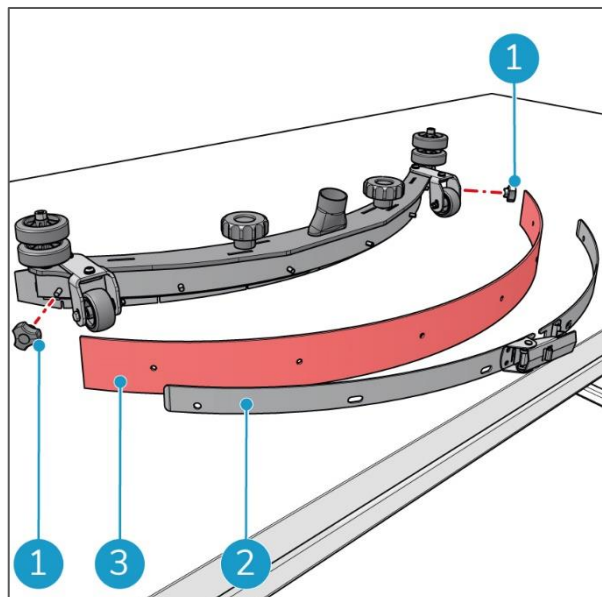

Figure 36
2. Loosen the small rotary knobs at both ends of the squeegee (Figure 36, pos 1).
3. Remove the clamping plate (Figure 36, pos 2) of the back blade.
4. Remove the back blade from the squeegee frame (Figure 36, pos 3).
Placing back the back blade. See Figure 36.